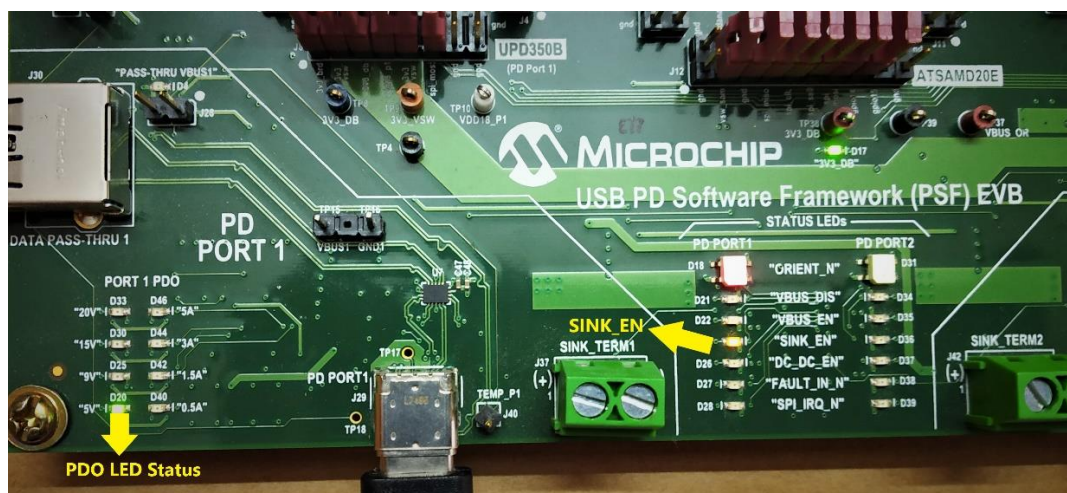

Figure 7.2 PDO Status LEDs after source attach
- Once an explicit power contract negotiation is in place, the PSF gets enough power for charging. PDO status LEDs will turn ON indicating the negotiated voltage as shown in Figure 7.2